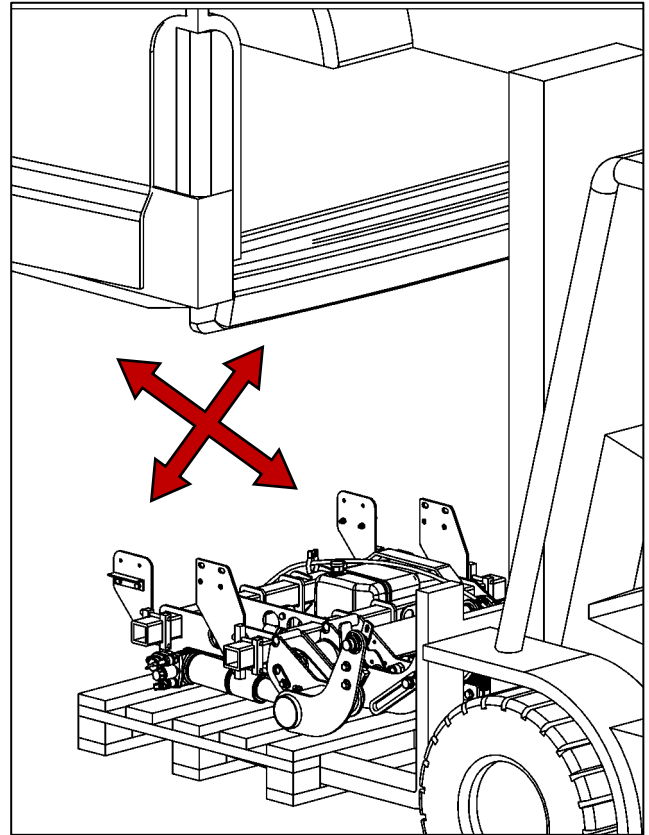

Fig. 24
- Align the lifting gear under the vehicle on a mounting tool or pallet (see Fig. 24).